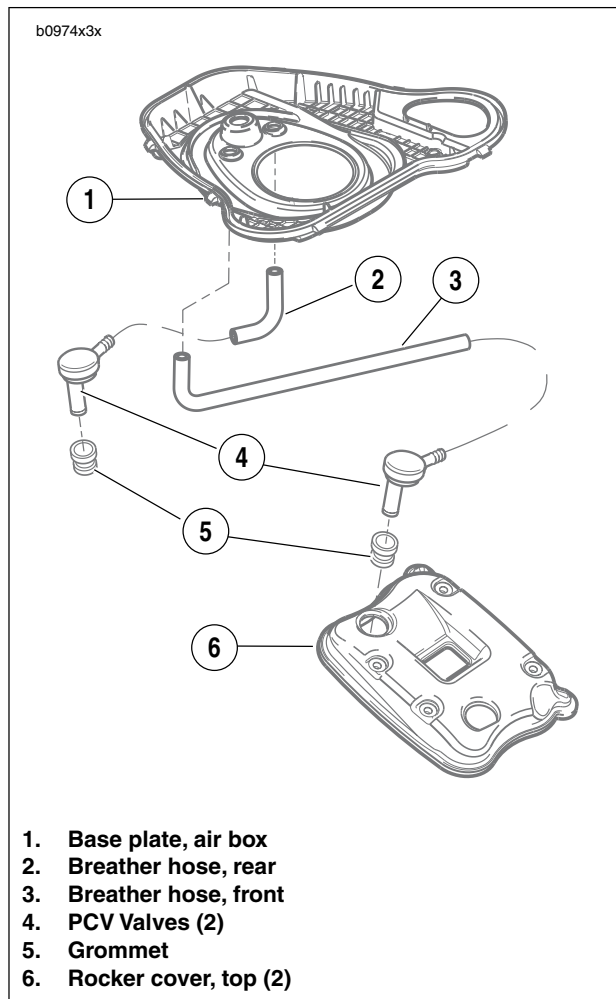

Figure 3-115. Crankcase Breathing System
See Figure 3-115. Air is allowed to escape the rocker boxes by exiting the positive crankcase vent (PCV) valves (4) located on top of the rocker boxes. From the PCV valves the air enters the crankcase breather hoses (2 & 3). The crankcase breather hoses route through the air cleaner base plate (1) to the air box where it is directed inside the air filter element and back into the engine.